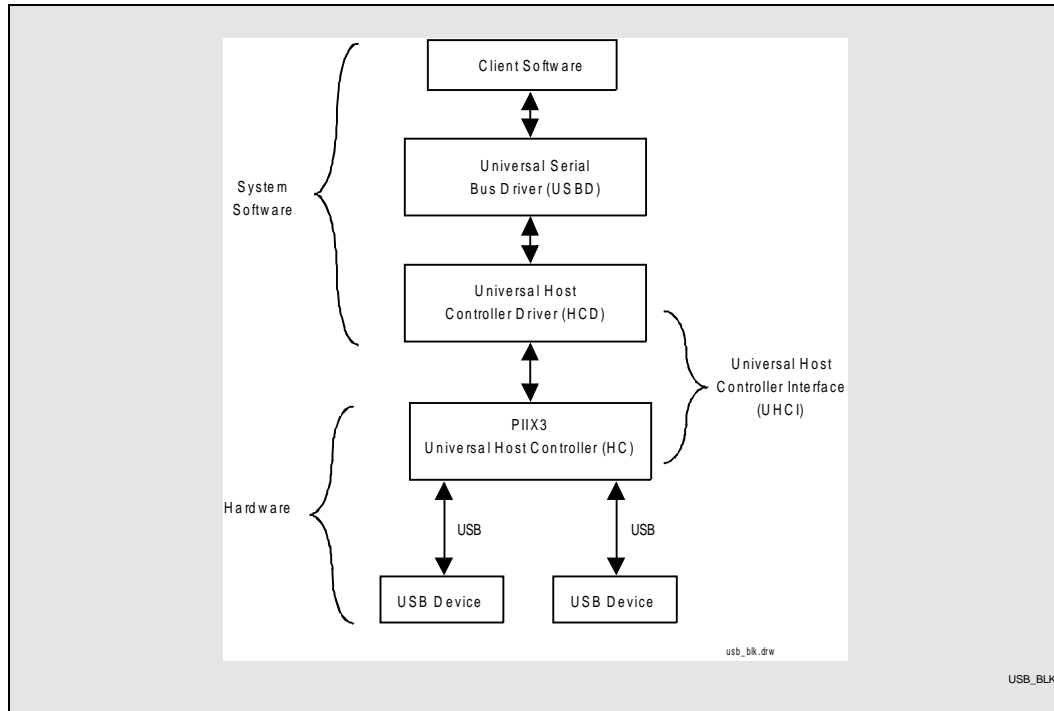

Figure 6. USB System Conceptual View
PIIX3 contains a USB Host Controller (HC). The Host Controller includes the root hub with two USB ports. This permits connection of two USB peripheral devices directly to the PIIX3 without an external hub. If more devices are required, an external hub can be connected to either of the built-in ports. The USB's PCI configuration registers are located in function 2, PCI configuration space. The PIIX3 Host Controller completely supports the standard Universal Host Controller Interface (UHCI) and thus, takes advantage of the standard software drivers written to be compatible with UHCI. Figure 6 Shows a conceptual view of a USB system. UHCI consists of two parts— Host Controller Driver (HCD) and Host Controller (HC). The Host Controller interfaces to the USB system software in the host via the HCD. The HCD software manages the Host Controller operation and is responsible for scheduling the traffic on USB by posting and maintaining transactions in system memory. HCD is part of the system software and is typically provided by the operating system vendor. HCD provides the software layer between the PIIX3's Host Controller and the USB software layer (also located in the operating system). The UHCI's HCD software interprets requests from the USB software and builds Frame List, Transfer Descriptor, Queue Head, and data buffer data structures for the Host Controller. The data structures are built in system memory and contain all necessary information to provide end-to-end communication between client software in the host and devices on the USB.